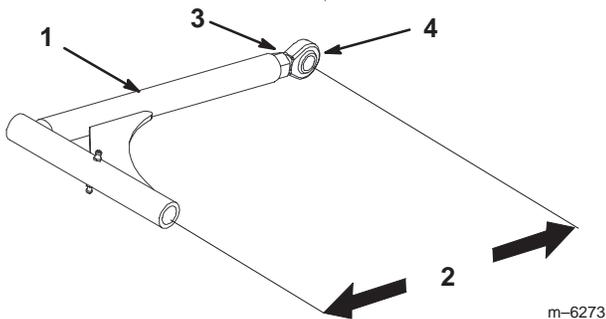

Figure 70
- If the fixed idler contacts the end of the adjustment slot and more belt tension is required, a small change to lengthen the push arms can be made (Fig. 70).